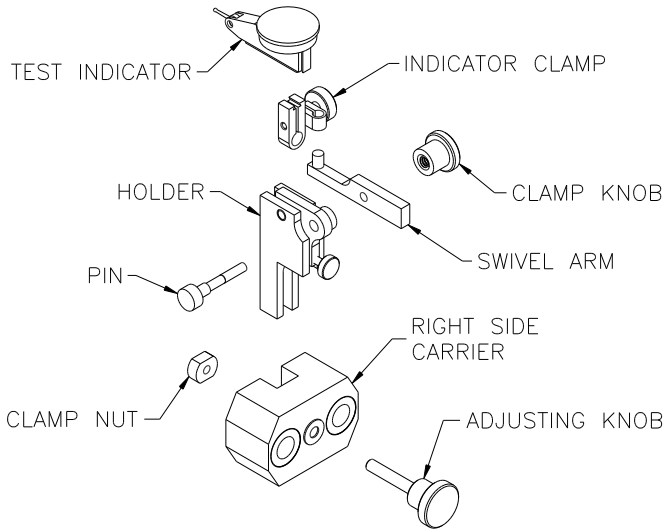

Figure 6. Right Side Carrier Assembly
5.0 Indicator Carriers – (See Figures 6 and 7)